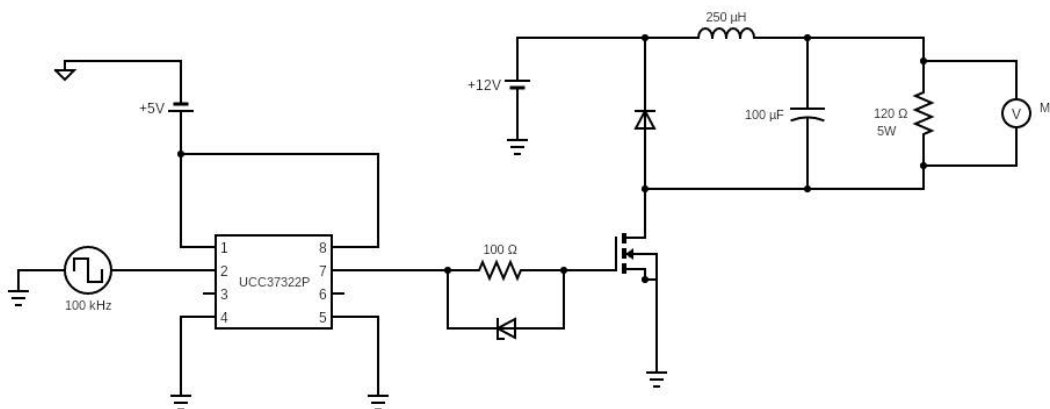

Figure 31
1. Make connections according to Fig.31